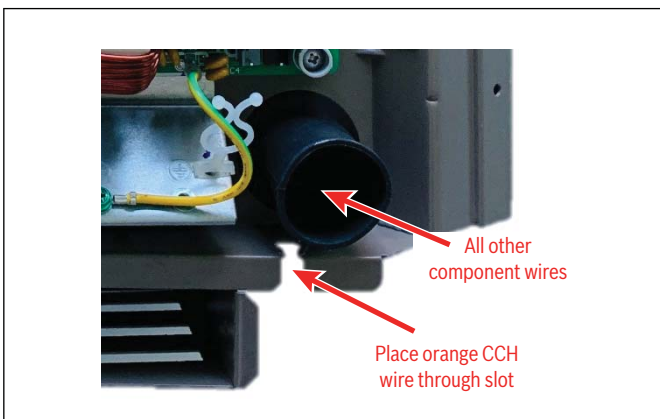

Figure 12 Routing Wires to Front of Board
15. All other component wires should be fed through the right gasket hole. Feed the wires through the hole one by one. Route the CCH wire (orange wire) through the separate slot on the E-box. Refer to figure 12.